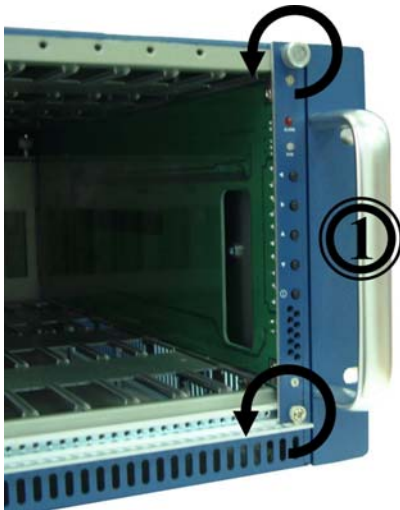

Figure 32 : Hot-Swapping KVM Control Panel (1)
1. Loosen the knot on the top and bottom of the KVM Control Panel that fastens the KVM Control Panel onto the HS420 chassis. Do not remove the knot (Figure 32).